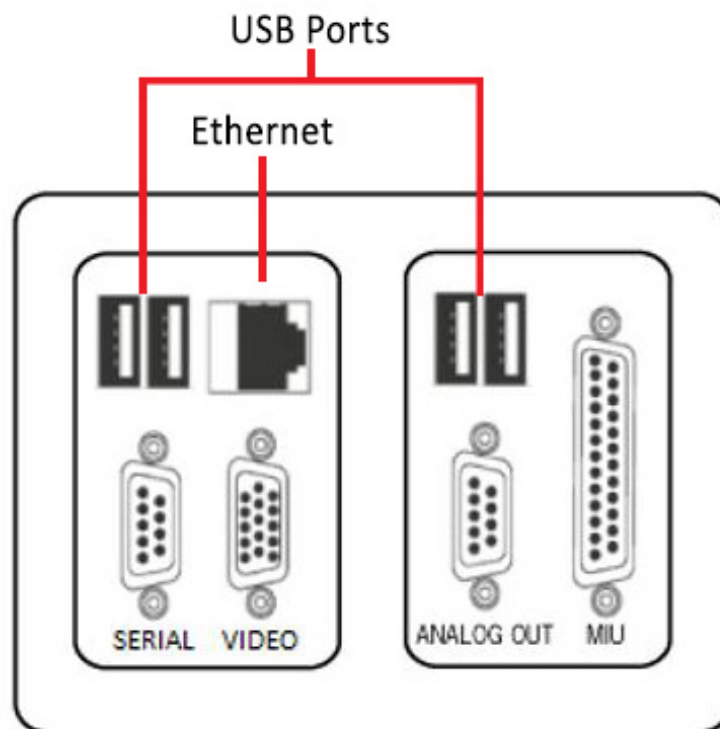

Figure 5: Data Interface Connection Ports
This section describes the data interface connections as shown in Figure 5. These connections vary from analyzer to analyzer depending on the ordered configuration.
1. See Figure 5 for a detailed description of the connections.